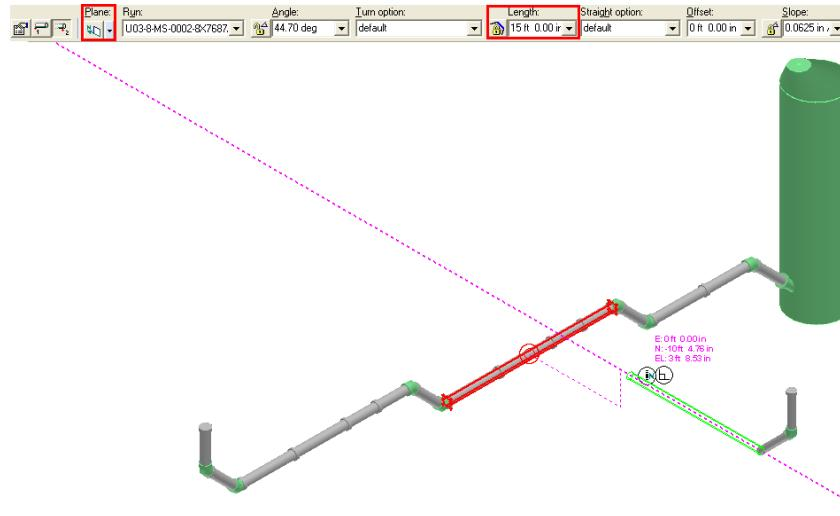

Figure 26: Pipe Routed in the Northing Direction
45. Select the **Lock Slope** option on the **Route Pipe** ribbon to constrain the routing to the minimum slope value and position the cursor point until the SmartSketch indicator displays an N glyph. This glyph indicates that you are going in the northing direction, as shown in Figure 26.